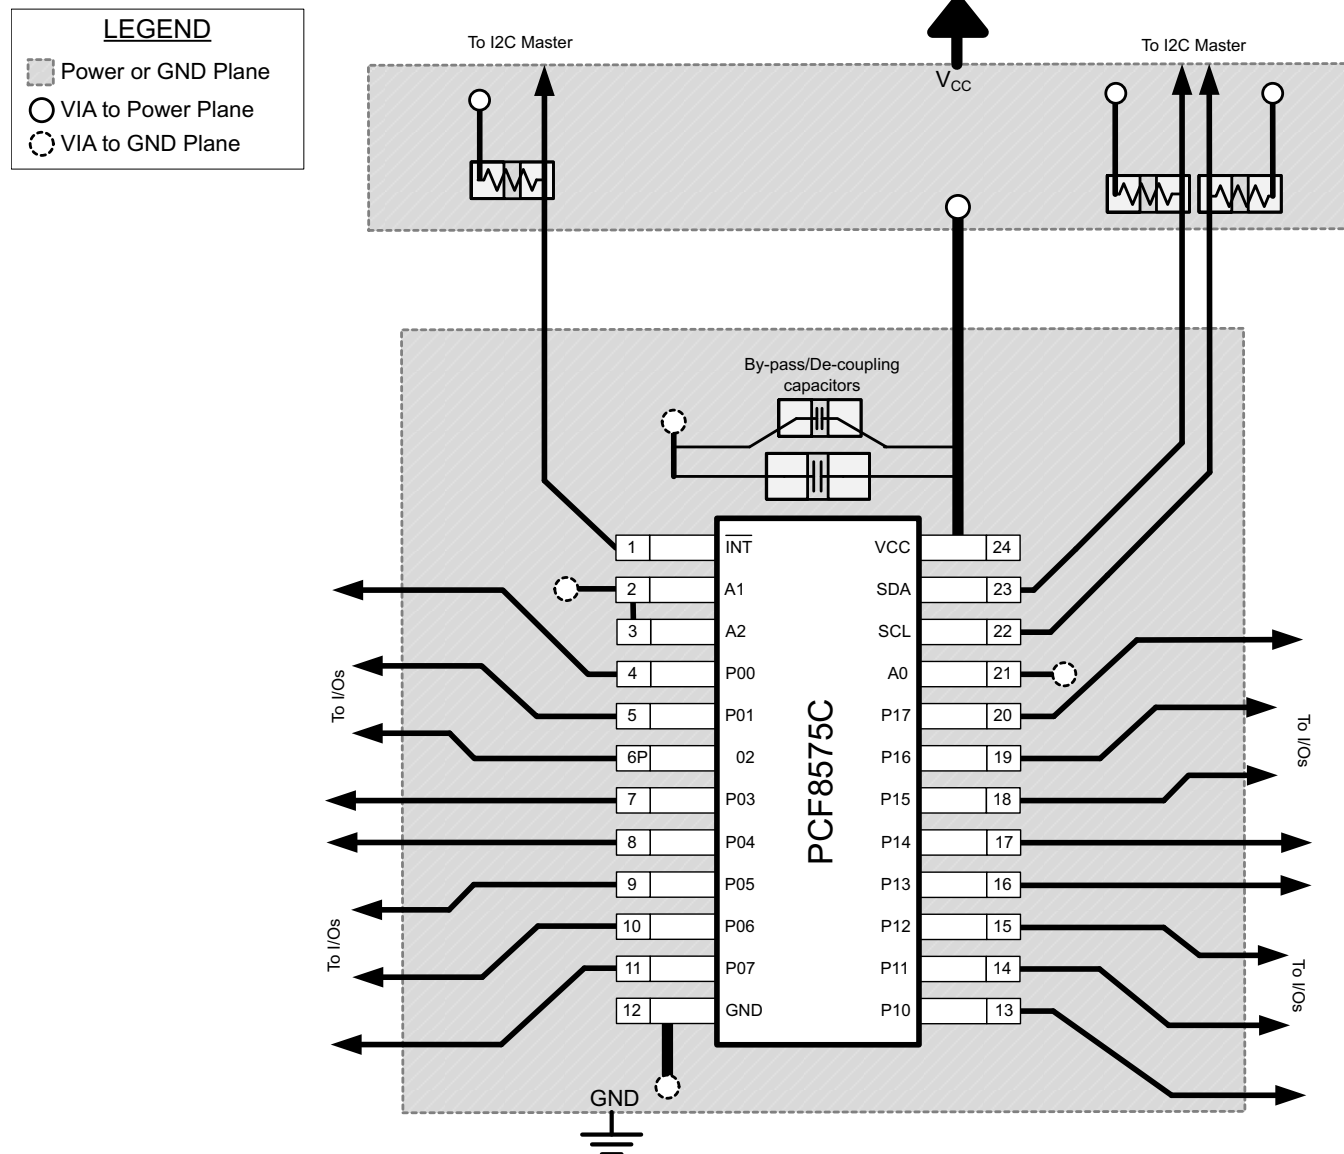

Figure 24. Layout Example for PCF8575C
In all PCB layouts, it is a best practice to avoid right angles in signal traces, to fan out signal traces away from each other upon leaving the vicinity of an integrated circuit (IC), and to use thicker trace widths to carry higher amounts of current that commonly pass through power and ground traces. By-pass and de-coupling capacitors are commonly used to control the voltage on the V_{CC} pin, using a larger capacitor to provide additional power in the event of a short power supply glitch and a smaller capacitor to filter out high-frequency ripple. These capacitors should be placed as close to the PCF8575C as possible. These best practices are shown in Figure 24.
For the layout example provided in Figure 24, it would be possible to fabricate a PCB with only 2 layers by using the top layer for signal routing and the bottom layer as a split plane for power (V_{CC}) and ground (GND). However, a 4 layer board is preferable for boards with higher density signal routing. On a 4 layer PCB, it is common to route signals on the top and bottom layer, dedicate one internal layer to a ground plane, and dedicate the other internal layer to a power plane. In a board layout using planes or split planes for power and ground, vias are placed directly next to the surface mount component pad which needs to attach to V_{CC} or GND and the via is connected electrically to the internal layer or the other side of the board. Vias are also used when a signal trace needs to be routed to the opposite side of the board, but this technique is not demonstrated in Figure 24.